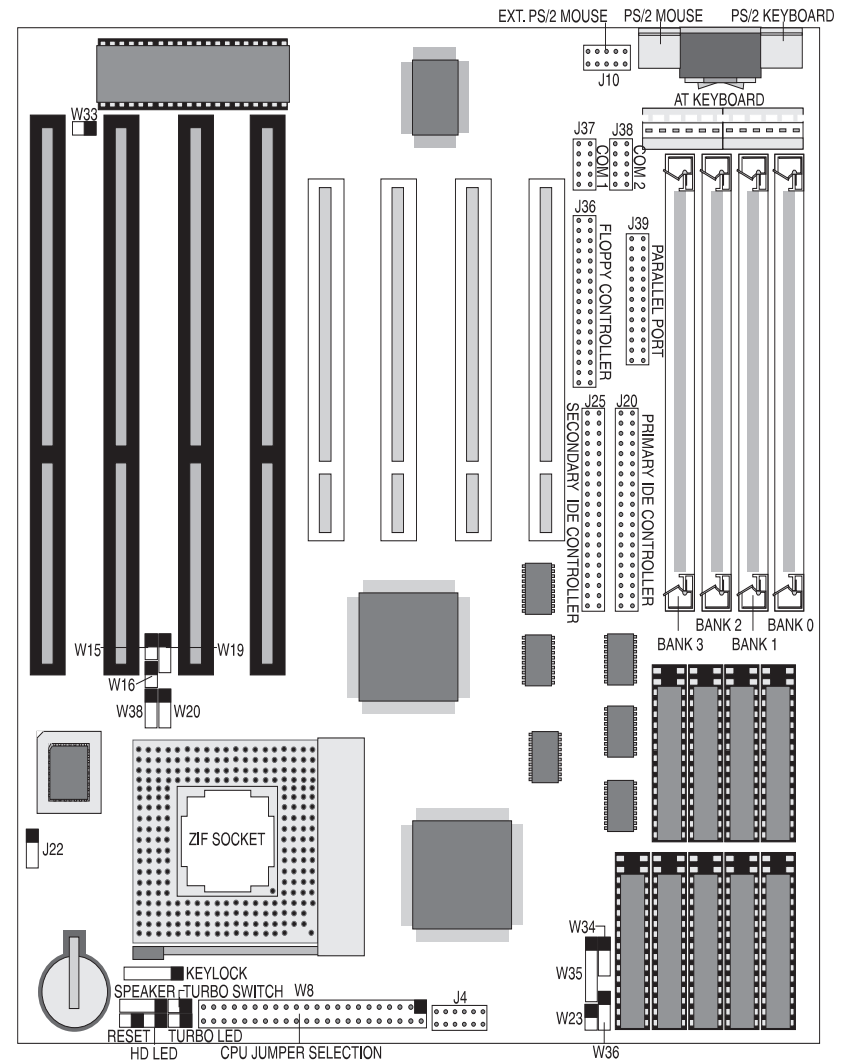

Figure 2-1 M4Li System Board
4. **Page 2-2:** Replace Figure 2-1 M4Li System Board with page 2 of this addendum.